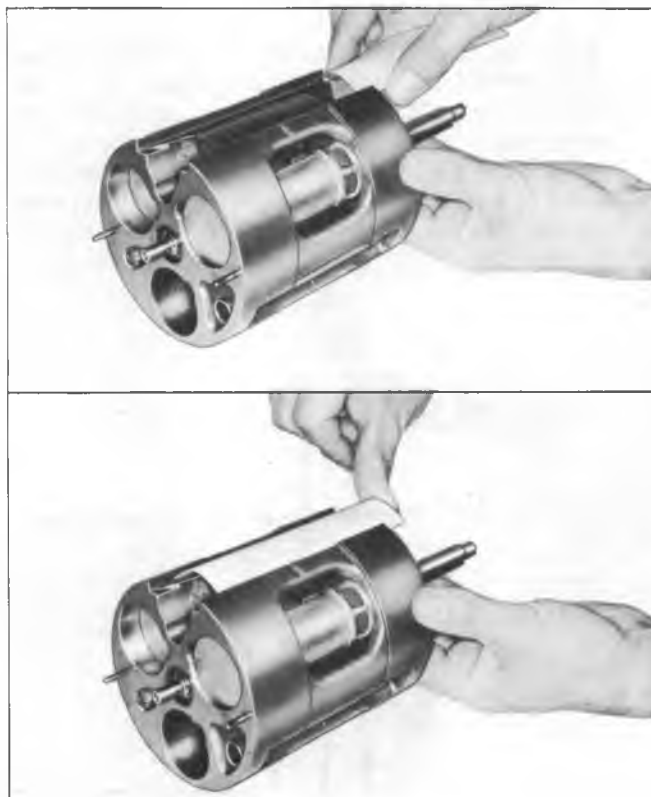

Fig. 25—Installing Suction Crossover Cover
12. Replace the suction crossover cover as shown in Figure 25. Compress the cover as shown to start it into the slot and then press it in until flush on both ends.